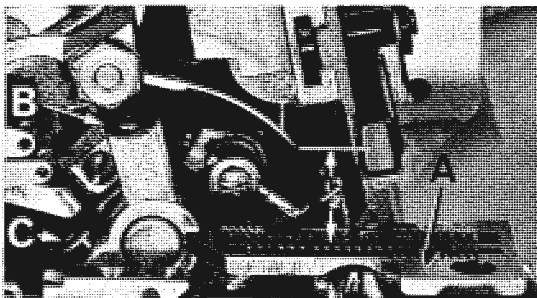

Fig. 3
With throat plate assembled in position, needle should center in the front end of needle slot. When needle is at high position, needle point should be set $1/2$ inch above throat plate (A, Fig. 3) for Styles 39500 FA, FB, FP, FY, GF, GS, JE and JG; $15/32$ inch for Styles 39500 GA and JF. To align needle or set the height above the throat plate, move needle driving arm (B, Fig. 3) by loosening clamp screw (C). Remove throat plate.